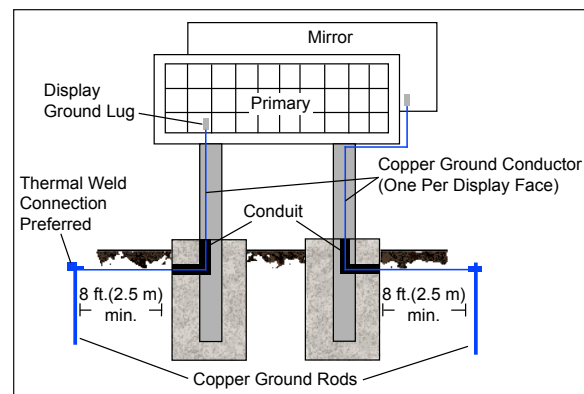

Figure 3: Proper Display Grounding
1. Install an earth-ground electrode (ground rod, ground plate, etc.) near the base of the display. Refer to **Figure 3** for guidelines.